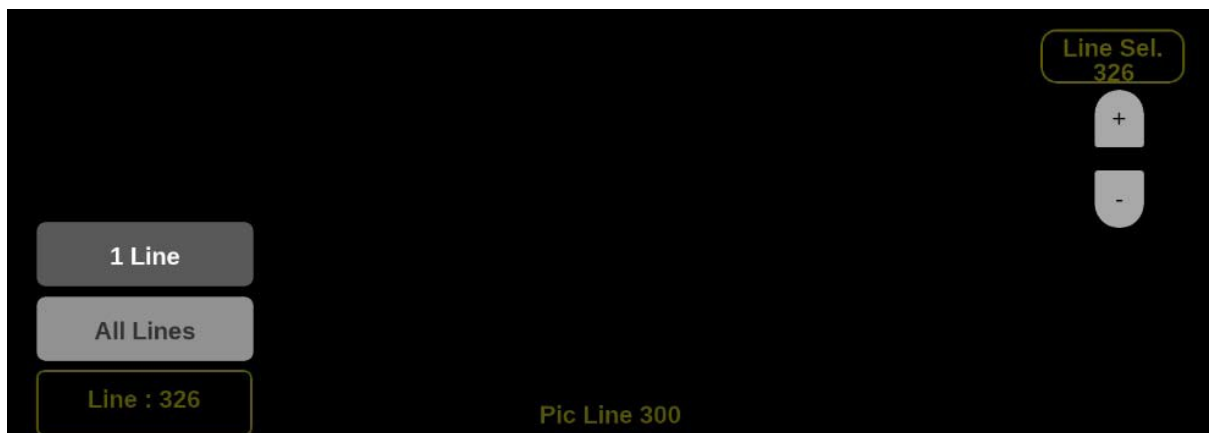

Figure 207: Diamond on-screen tools – Line Select
If **1 Line** is selected then the display will only show results for the selected line in the picture. The line can be selected using the on-screen tools. (See Line Select function.) Or the line can be selected directly on the Picture. (See Figure 207.)
1. Select the **Lines** button at the bottom of the application. (See Figure 207.)